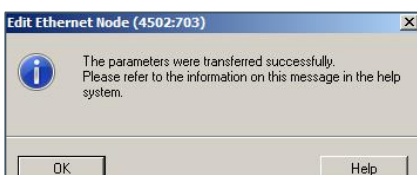

Figure 71: Confirm the manually assigned IP address
- 2) Click **OK**, then **Close the Edit Ethernet Node** window (see: Figure 71: Confirm the manually assigned IP address).